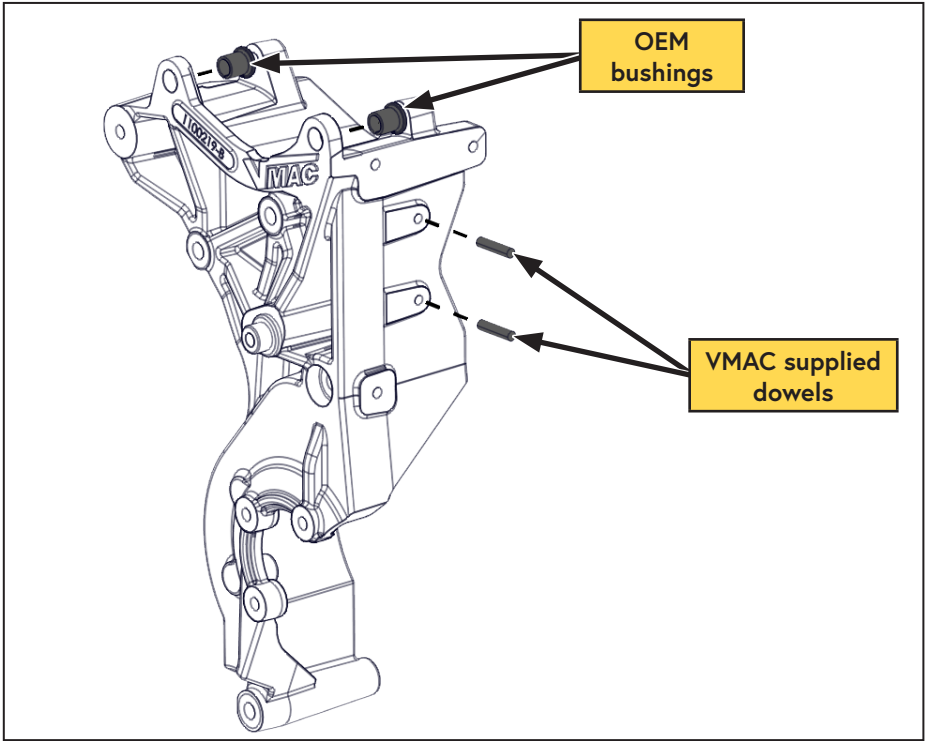

Figure 13 — VMAC bracket bushing and dowel installation
- Install the 2 OEM bushings, and the 2 supplied dowels into the VMAC main bracket (Figure 13).